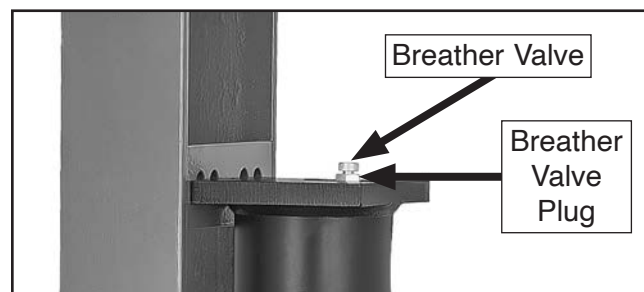

Figure 32. Location of breather valve plug.
4. Remove breather valve plug on hydraulic pump (see **Figure 32**), and drain all hydraulic oil into drain pan.